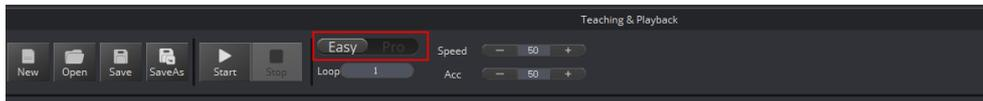

Figure 5.211 Switch advanced function
Step 1 Click  icon on the **Teaching&Playback** page, as shown in Figure 5.211.